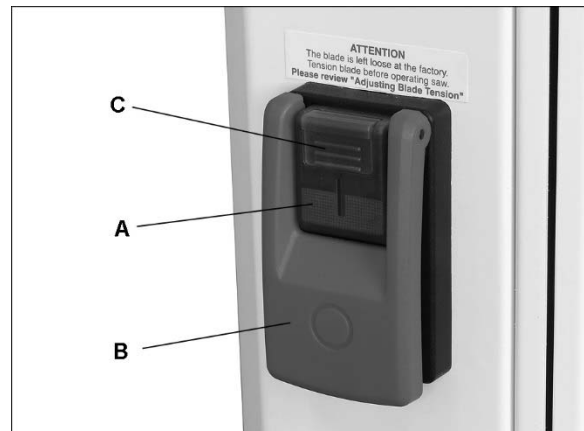

Figure 8-1 – Start/Stop Switch
Press the green *on* button (A, Figure 8-1) to start. Press the red *stop* button (B) to stop.
The switch has a safety feature that prevents unauthorized or accidental starting of the machine. With band saw turned off, slide safety key (C, Figure 8-1) up and remove it from switch. This piece must be re-inserted before band saw can operate.